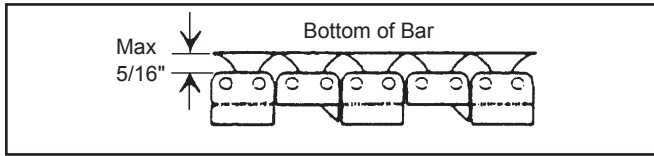

Figure 11. Exposed Drive Link Tang
**Adjust the chain tension each time the drive link tang hangs fully exposed from the groove at the bottom of the saw bar (Figure 11).**